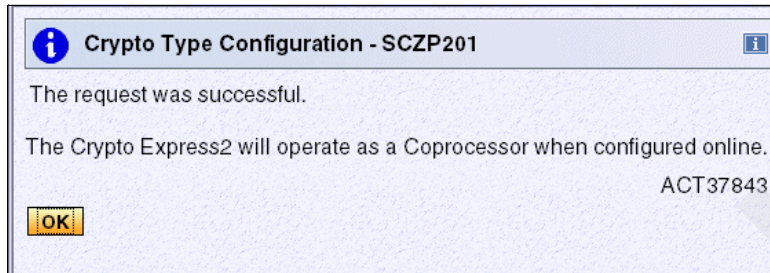

Figure 8-30 Crypto Type Configuration, message ACT37843
4. When your request has completed successfully, the message shown in Figure 8-30 is displayed. Click **OK**.